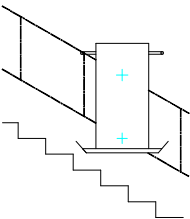

Fig. 1.1
3. Press the hand lever for the brake release and turn the hand wheel until reaching the next half-landing or straight part of the staircase (see fig 1.1). Do not stop at a curved area of the rail.